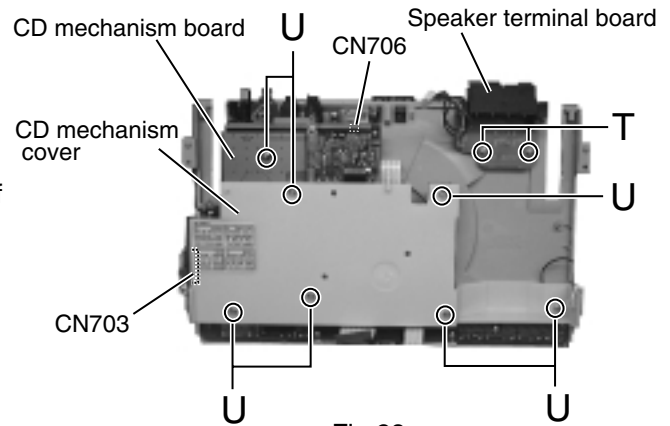

Fig.28
■ Removing the speaker terminal board (See Fig.28)
■ Removing the CD mechanism board / CD mechanism assembly (See Fig.28 to 32)